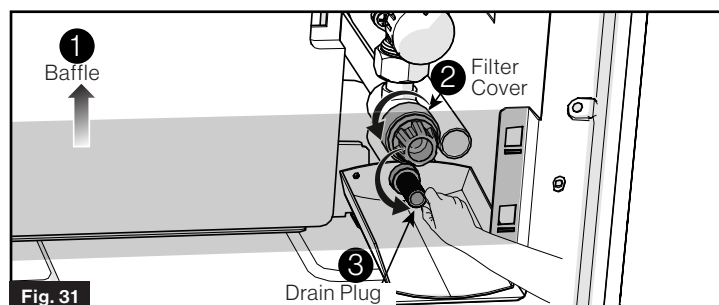

Fig. 31
3. Drain water out of the system and water heater by removing the filter cover and drain plug (Fig. 31)